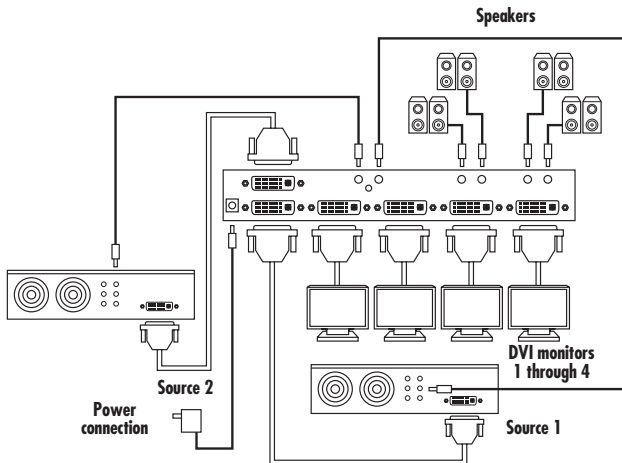

Figure 3-7. Powering on the switch.
4. Power on the switch. See Figure 3-7.